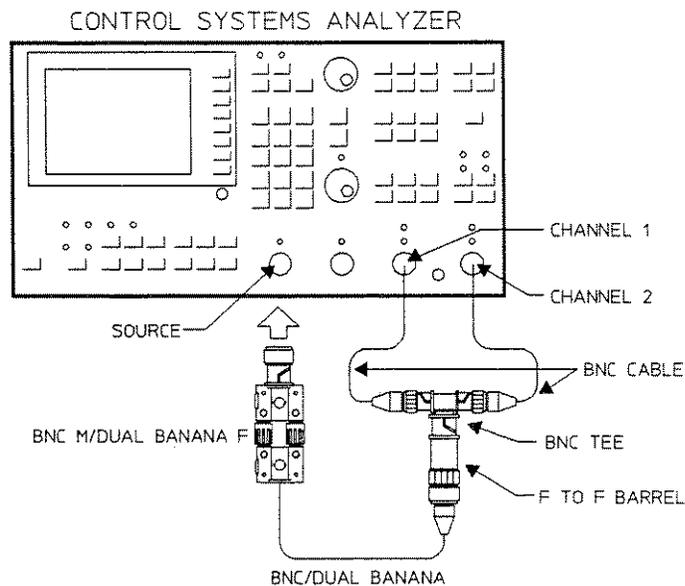

Figure 4-7. Amplitude and Phase Match Test Setup
1. Connect the HP 3563A as shown in Figure 4-7. The cables to Channel 1 and Channel 2 must be the same length.